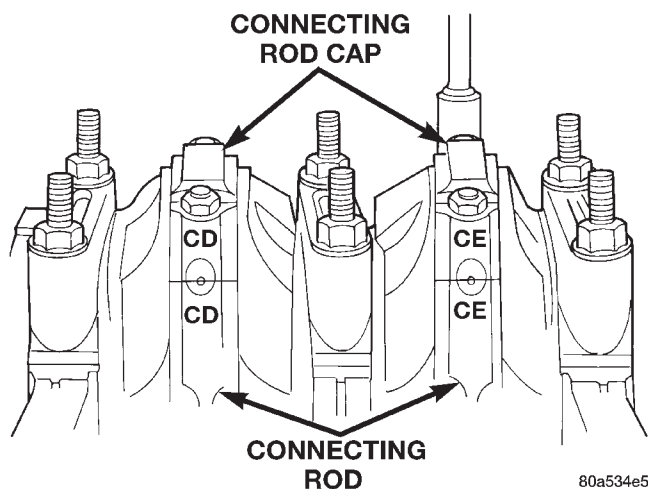

Fig. 58 Stamped Connecting Rods and Caps
(10) Remove the connecting rod bearing caps and inserts. Mark the caps and rods with the cylinder bore location. The connecting rods and caps are stamped with a two letter combination (Fig. 58).